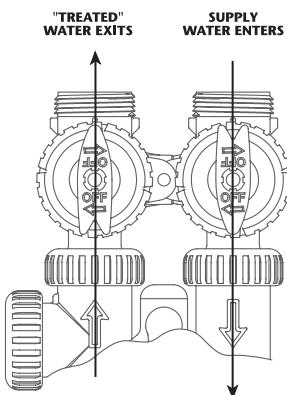
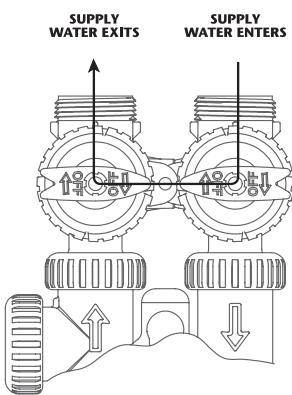

FIGURE 1
FIGURE 2
1. NORMAL OPERATION POSITION: The inlet and outlet handles point in the direction of flow indicated by the engraved arrows on the control valve. Water flows through the control valve for normal operation of a water softener or filter. During the regeneration cycle this position provides regeneration water to the unit, while also providing untreated water to the distribution system (Fig. 1).
2. BYPASS POSITION: The inlet and outlet handles point to the center of the bypass. The system is isolated from the water pressure in the plumbing system. Untreated water is supplied to the building (Fig. 2).
In order to replace or remove the check valve from the control valve, it is necessary to relieve the pressure from the system. Place filter into by-pass mode (Fig. 2 Page 4) and release pressure by manually stepping through an entire regeneration sequence. This will adequately release the pressure on the system so the check valve can be serviced. After servicing, replace part, secure the check valve assembly with the red clip. Open by-pass to the normal service position (Fig. 1 Page 4).
1. Rotate bypass handles to the bypass mode (see Fig. 2 of page 4).